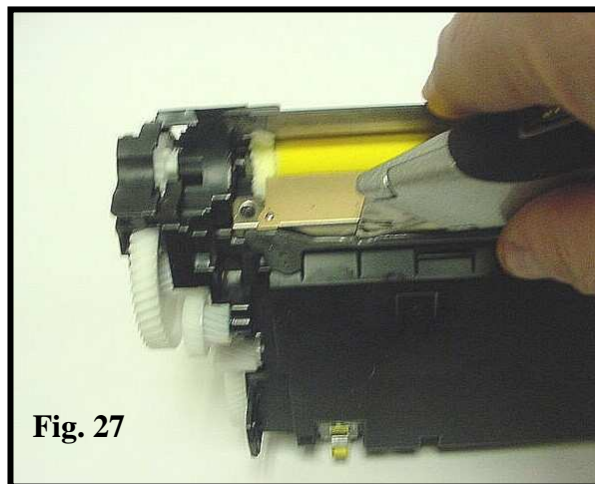

Fig. 27
27. Using a utility knife, cut along the back edge of the doctor blade to release the caulking from the blade (Fig 27).